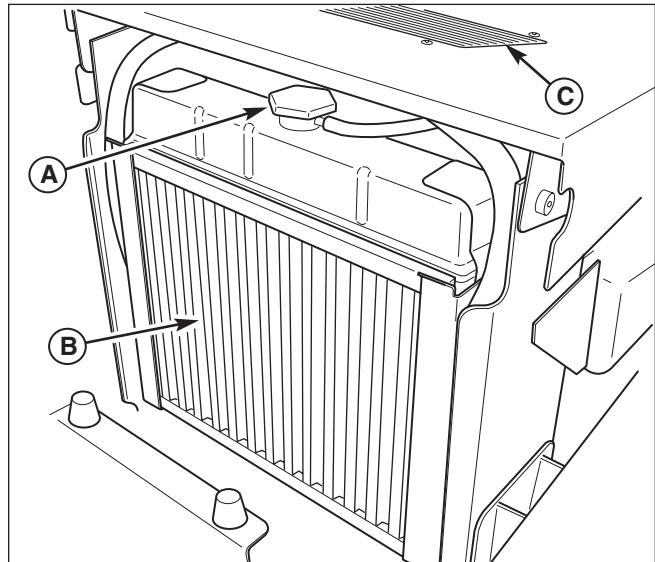

Figure 18. Radiator & Oil Cooler (Diesel model shown)
1. Remove the radiator pressure cap (A, Figure 18) to check the fluid level.